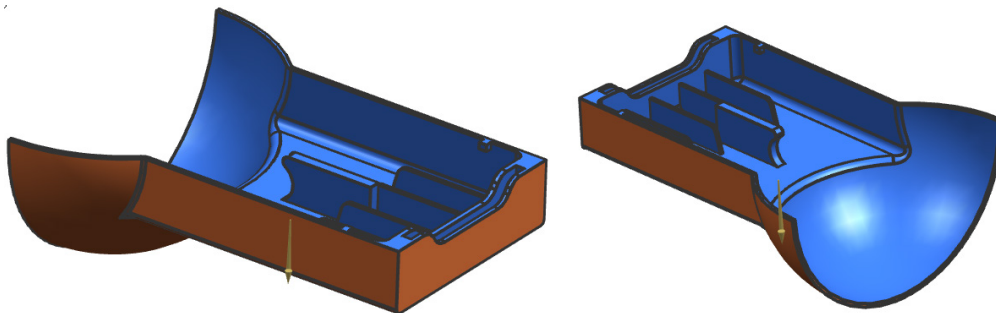

Figure 16-97 The modified model after using the Check Region tool
4. Choose the **OK** button to close the dialog box. Modified model after using the **Check Region** tool is shown in Figure 16-97.